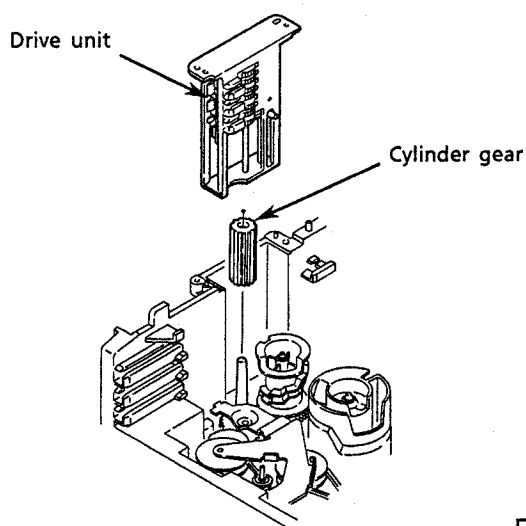

Fig. 34
2. Rotate the Cam gear L so that the drive unit's pole ⑥ is positioned as shown in Fig. 34.